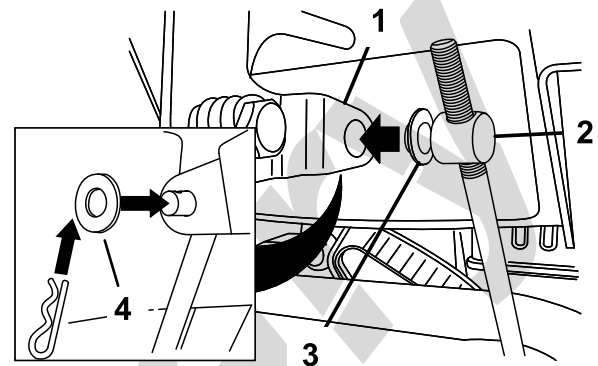

Figure 11
3. Remove the hairpin cotter and the outer washer from the trunnion on the upper end of the speed control rod (Figure 11).
Note: To make installation easier, leave the flat washer on the trunnion (Figure 11).
6. Lift up on the speed control rod and insert the trunnion into the hole in the speed selector lever (Figure 11).
- B. Disconnect the trunnion from the speed selector lever (Figure 11).